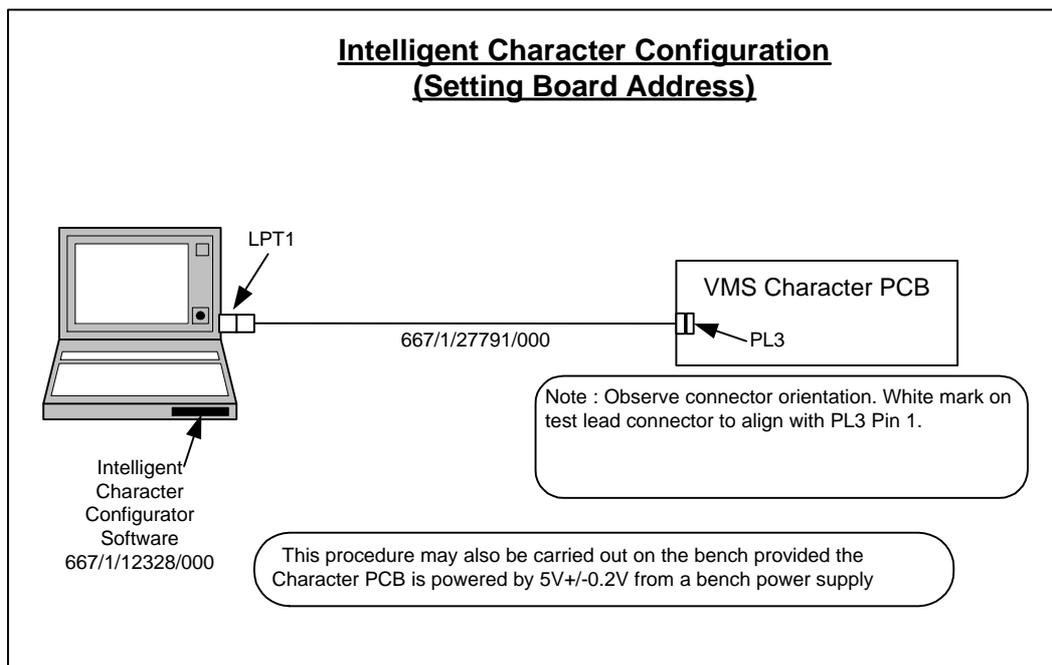

Figure 8 - Configure New Character PCB
- Connect the PC to the replacement character, as shown in Figure 8.